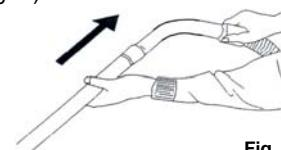

Fig. 2
- Insert the upper extension tube into the curved wand/hose extension. The upper extension tube is the one with the accessory caddy attached. Then insert the lower extension tube into the upper extension tube. (Fig. 2)